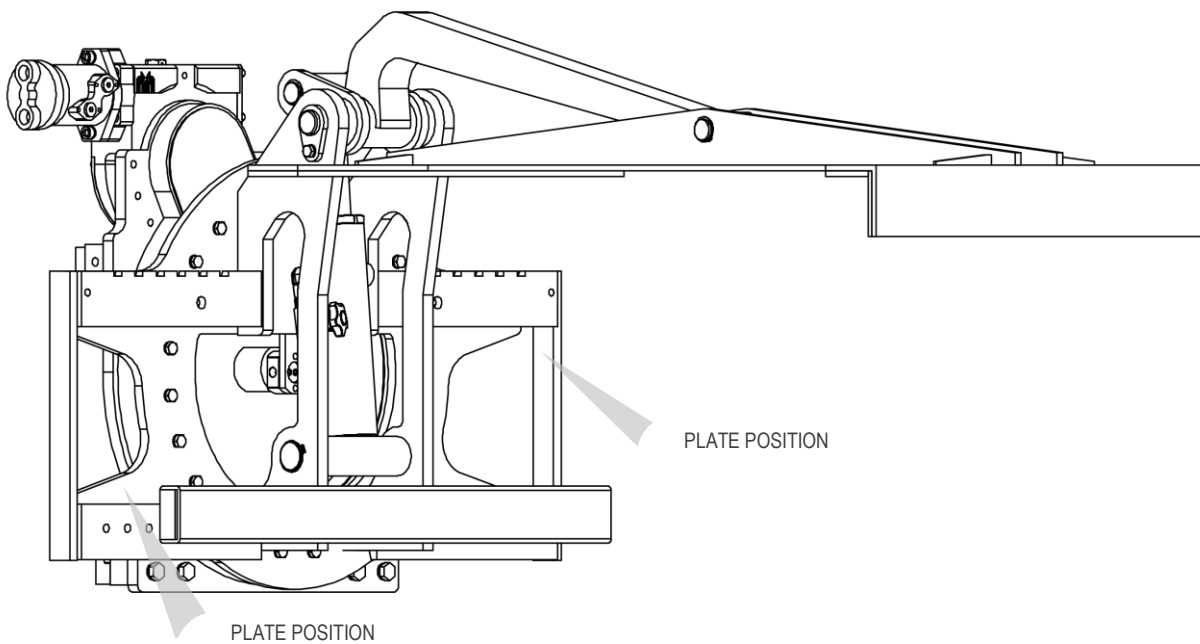

Figure 1
All the A.T.I.B. equipment - “BOX TIPPER ROTATING 360° TYPE 213” are identified by means of an adhesive plate (see *Table 1*) located on the equipment (see *Figure 1*, where the two most common locations of the rating plate are shown). Always refer to the serial number.
- For handling, use straps or chains suitably sized in relation to the weight of the equipment as indicated on the plate (see *Figure 1* and *Table 1* on page 6).
11. Connect the hydraulic circuit, ensuring that the operating pressure of the lines is greater than or equal to that indicated on the rating plate (see *Figure 1* and *Table 1* on page 6).
6. For handling, use straps or chains that are suitably sized in relation to the weight of the equipment as indicated on the plate (see *Figure 1* and *Table 1* on page 6).